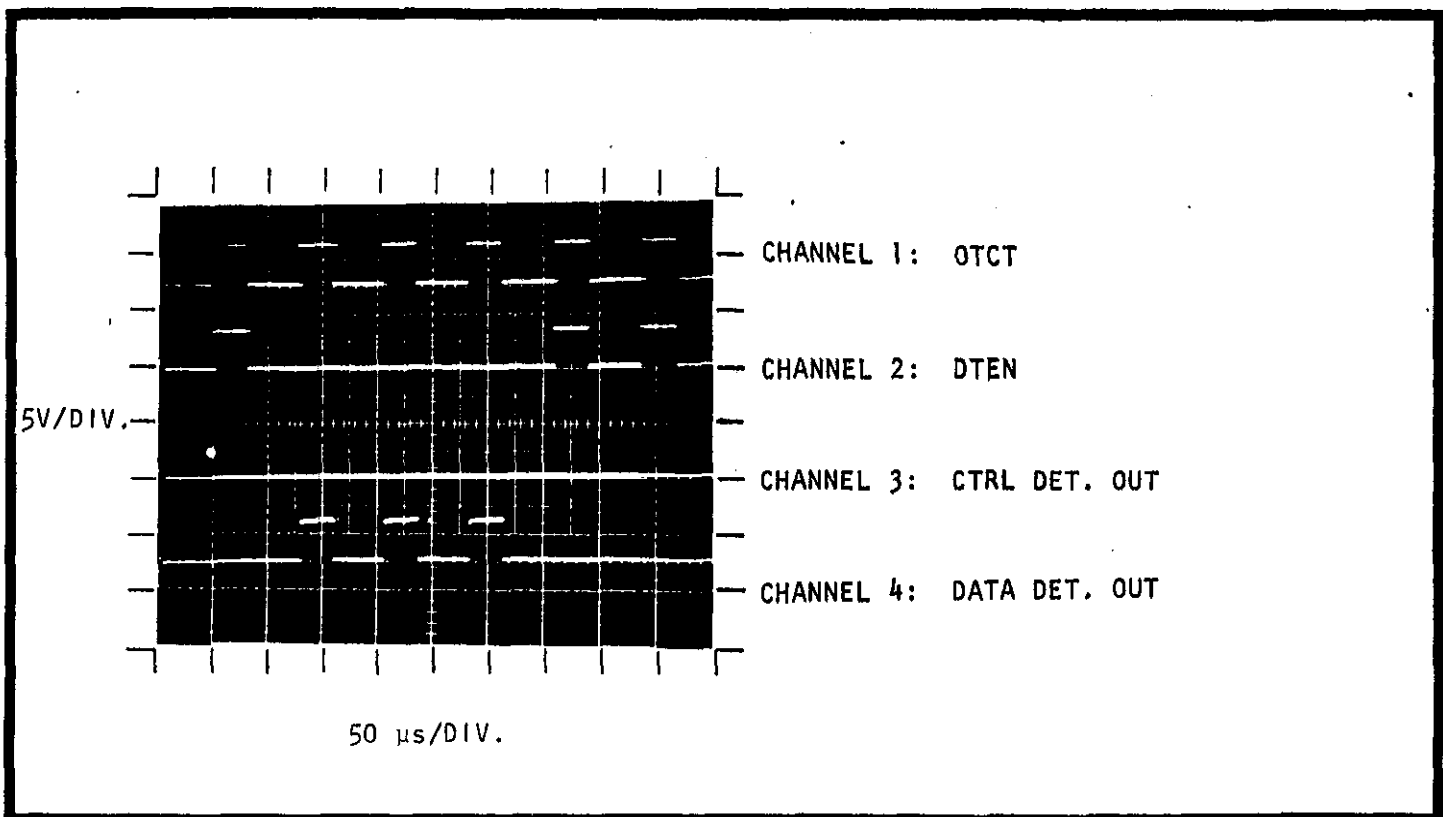

FIGURE 11. Trace for Test #3.
6. Verify that DTEN is present except during each execution of a OPDB instruction (three consecutive OPDB instructions as in this example), as shown in Figure 11.